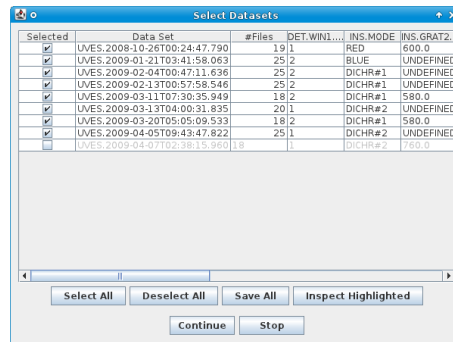

Figure 4.3: The “Select Datasets” pop-up window. On purpose the demo includes an incomplete (grey) DataSet.
- The Data Set Chooser actor will be highlighted next and will display a “Select Datasets” window (see Figure 4.3) that lists the DataSets along with the values of a selection of useful header keywords5. The first column consists of a set of tick boxes which allow the user to select the DataSets to be processed, and by default all complete DataSets are selected.